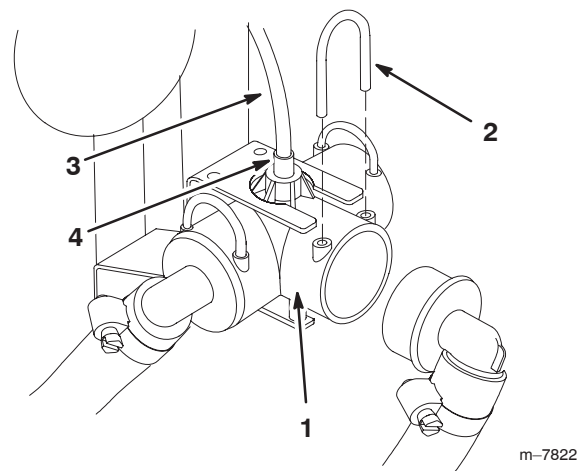

Figure 3
1. Remove hose retainer to disconnect the boom hose from the supply tee (Fig. 3).
2. On a Multi-Pro 1200 Sprayer, disconnect the small red pressure gauge tube from the green tube fitting on top of the supply tee (Fig. 3). To disconnect, press down on the tube fitting while pulling up on the tube.